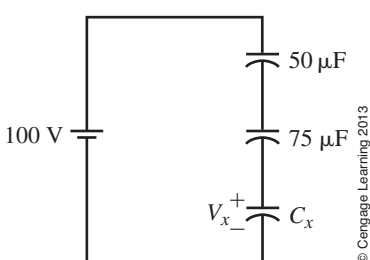

FIGURE 10-40
40. For Figure 10-40, $V_x = 50 \text{ V}$. Determine C_x and C_T .